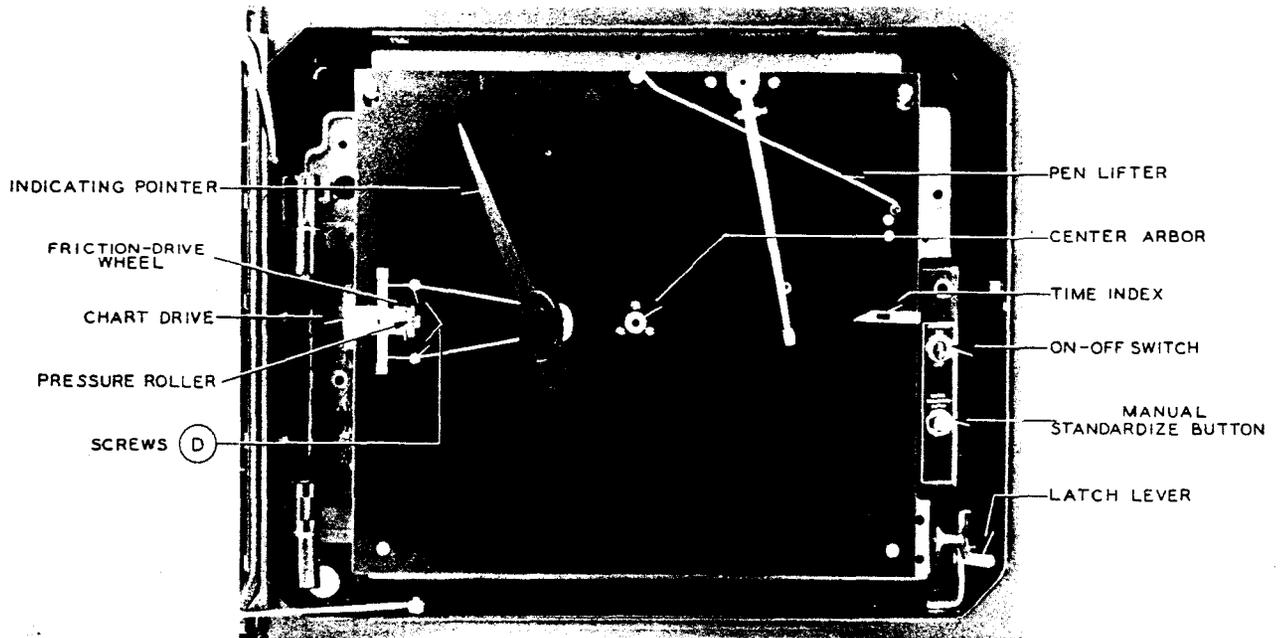

FIGURE 5. FRONT VIEW OF CHART PLATE WITH CHART REMOVED
3. **Replacement of Chart Drive.** Turn power switch off. Disconnect motor leads from power-supply terminals L₁ and L₂ on back of panel. Remove screws (Item D in Figure 5). This permits the motor and motor mounting bracket to be removed as a unit. Remove old motor from mounting bracket. Install new motor on mounting bracket and mount complete unit on chart plate. After mounting the new motor, connect the motor leads to L₁ and L₂ terminals on back of panel.